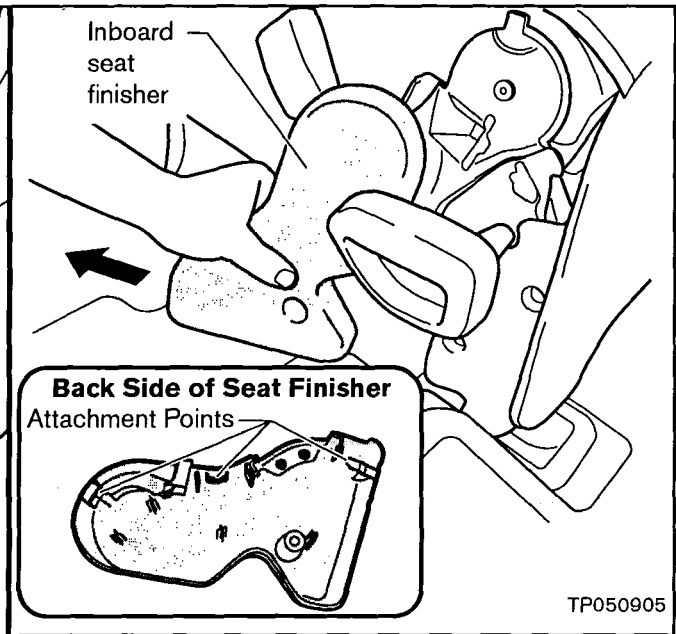

Figure 3b
- b. Release the finisher from the attachment points and then carefully remove the finisher (see Figure 3b).